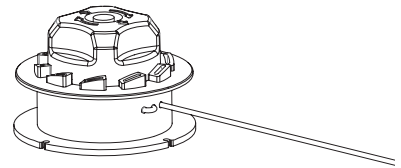

Figure 5
1. Insert the end of the cutting line into the retaining lug of the spool on one side (see Figure 5).